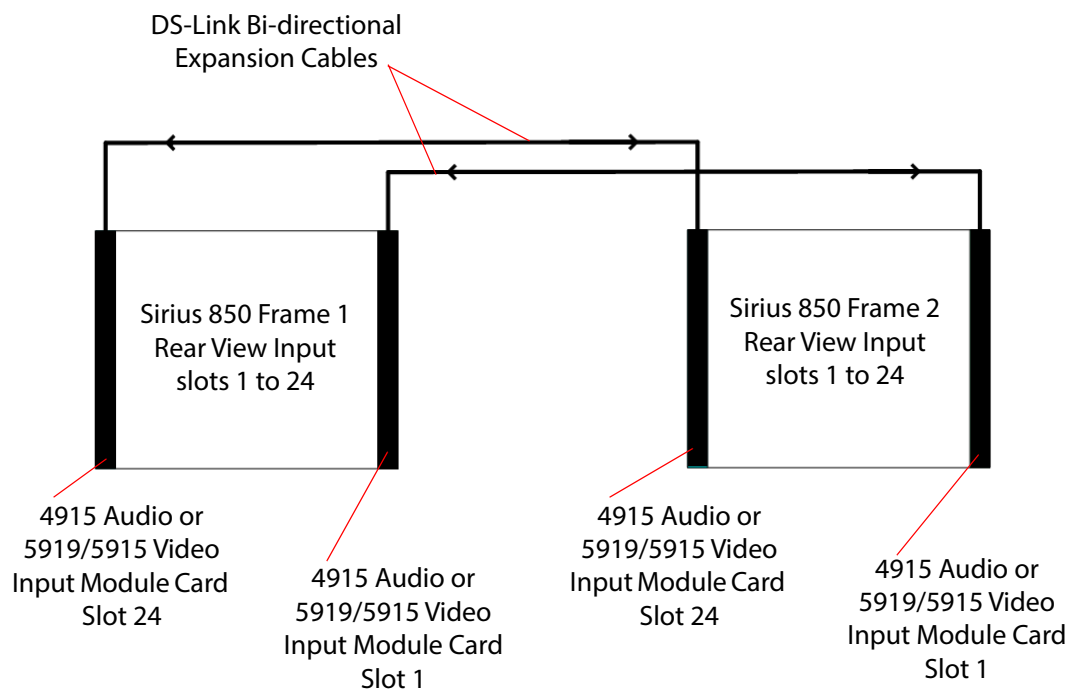

Figure 184 Audio Expansion in a two Frame System
The DS-Link sockets on the rear panels of 4915 and 5919/5915 input modules pass their multiplexed audio transport streams to the other router frame via a bi-directional DS-Link expansion cable (see Figure 183 & Figure 184). Once the expansion audio transport stream arrives at the input card in the other router frame it is passed, along with the input cards own audio transport stream, to the audio crosspoint card in that router in the usual way and is routed by the local controller as normal.
- Each pair of expansion input cards must be AHP cards (see Figure 184).
- Each pair of expansion input cards must be in the same card slot position in each router (see Figure 184).